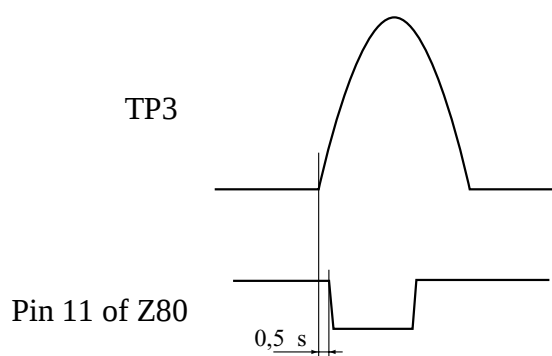

Figure 1.13 : Horizontal phase
- Adjust R92 (H. PHASE) to set the leading edge of the line fly back signal to $0.5\text{ }\mu\text{s}$ before the falling edge of the sync signal. See figure 1.13.